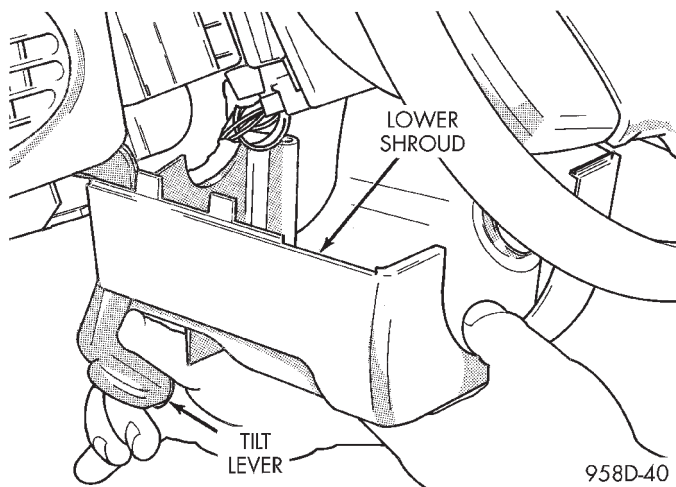

Fig. 16 Lower Shroud Removal
(14) Hold tilt wheel lever down and slide lower shroud forward to remove it from column (Fig. 16).